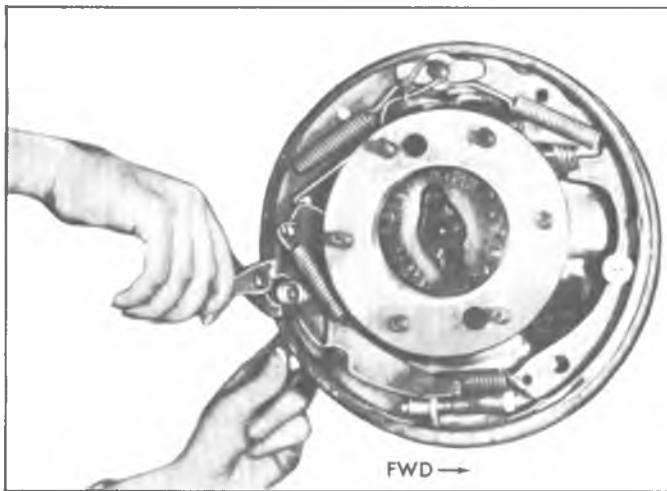

Fig. 47-Removing Hold Down Spring and Pin
7. Remove hold-down pins and springs using any suitable tool (fig. 47).